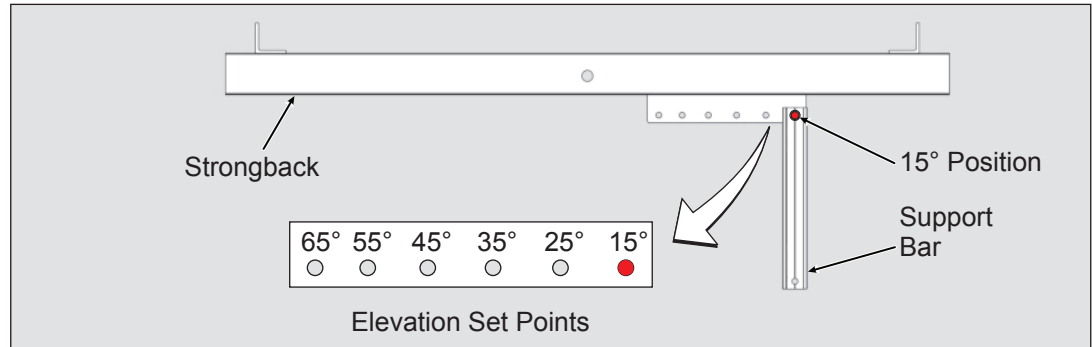

Figure 4-1: Positioning Support Bar
Collect all the Slide Plates (Single and Double Hole) as well as the attaching hardware shown in Figure 4-1. Loosely assemble all of the Plates in preparation for attaching them to the Module Rails. Do not tighten the hardware at this time, as it should be left loose for ease of sliding the Plates into the Module Rails.
- A. Remove the Support Bar from the Strongback and re-install in the 15° elevation set point. Secure with the 3/8" hardware and finger tighten. (See Figure 4-1)